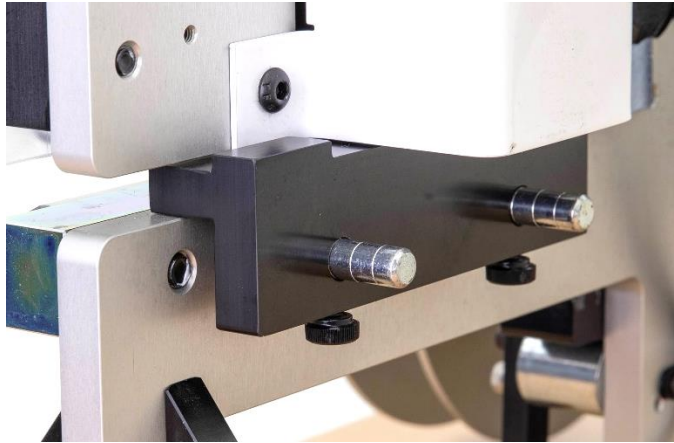

Figure 3.20
F. **Bag Stop Extension:** The Bag Stop has a flat side and an extended side. If you want to place the tie closer to the top of the bag, you can turn the Bag Stop around and slide the extension into the slot. (Figure 3.20)